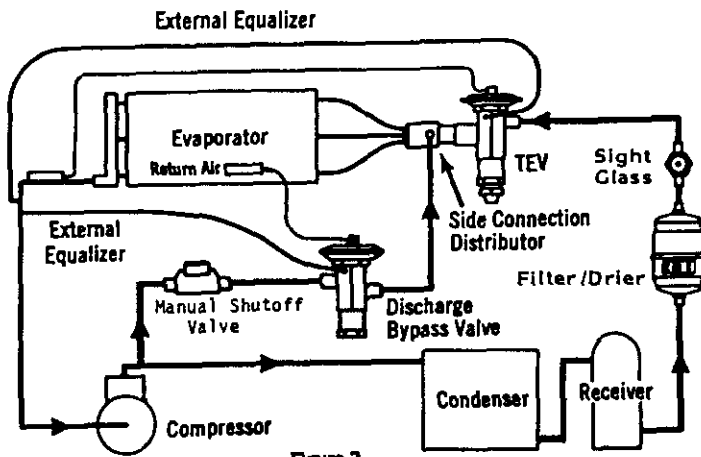
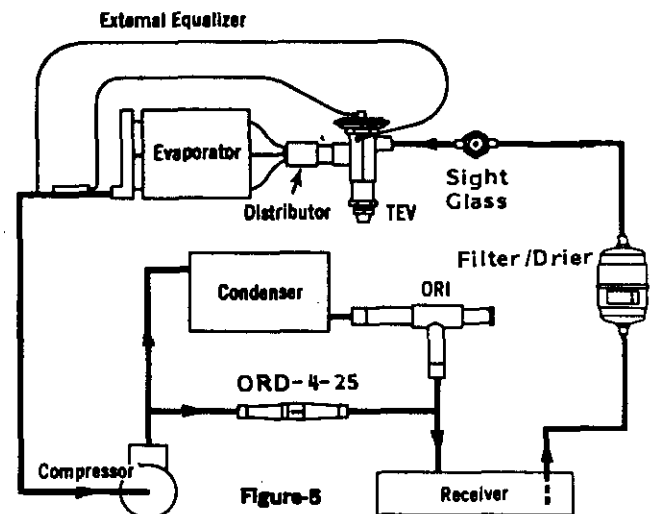
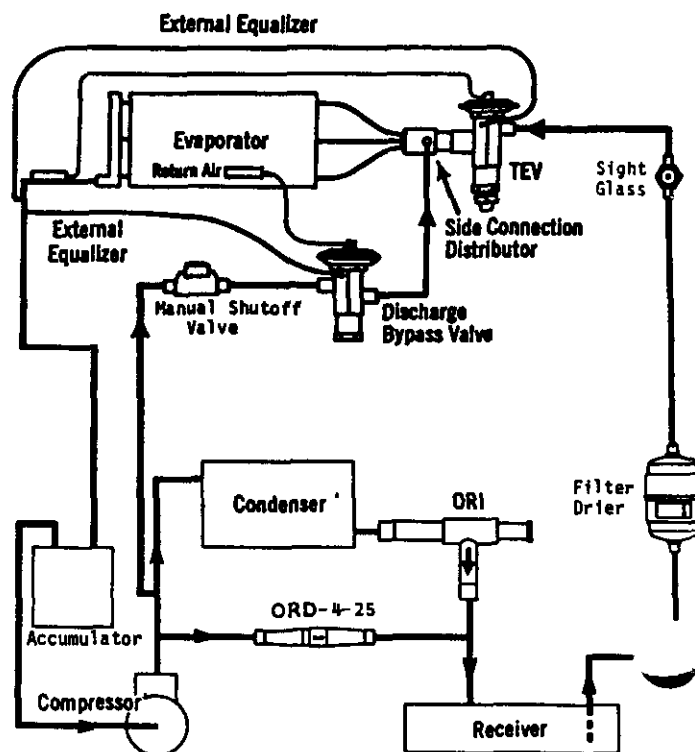

Figure-2
Figure-5
Figure-6
**BYPASS TO EVAPORATOR INLET WITH DISTRIBUTOR** - This method of application, illustrated in Figure-2, provides distinct advantages.
Since the primary function of the DBV is to maintain suction pressure, the compressor suction pressure is the control pressure and must be exerted on the underside of the valve diaphragm. When the DBV is applied as shown in Figure-2 where there is an appreciable pressure drop between the valve outlet and the compressor suction, the externally equalized valve must be used. This is true because when the valve opens, a sudden rise in pressure occurs at the valve outlet.
As shown in Figure-5, the ORI is located in the liquid line between the condenser and the receiver. And the ORD is located in a hot gas line bypassing the condenser. During periods of low ambient temperature, the condensing pressure falls until it approaches the setting of the ORI valve. The ORI then throttles, restricting the flow of liquid from the condenser. This causes refrigerant to back up in the condenser thus reducing the active condenser surface. This raises the condensing pressure. Since it is really receiver pressure that needs to be maintained, the bypass line with the ORD is required.
Earlier in this manual Figure-2 reviewed the components used in System Capacity Control and Figure-5 those used for Head Pressure Control. Please refer to Figure-6 for complete piping diagram including System Capacity and Head Pressure Control.